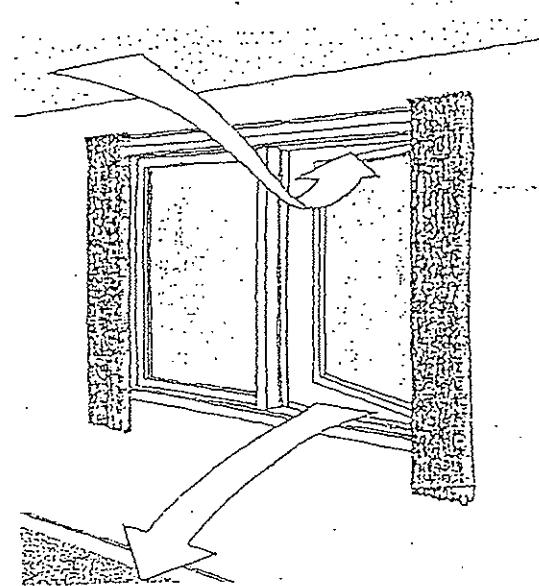

Figure 12 Opening a window helps reduce localized condensation
- 9 If necessary you can open your window to reduce localized condensation (figure 12).